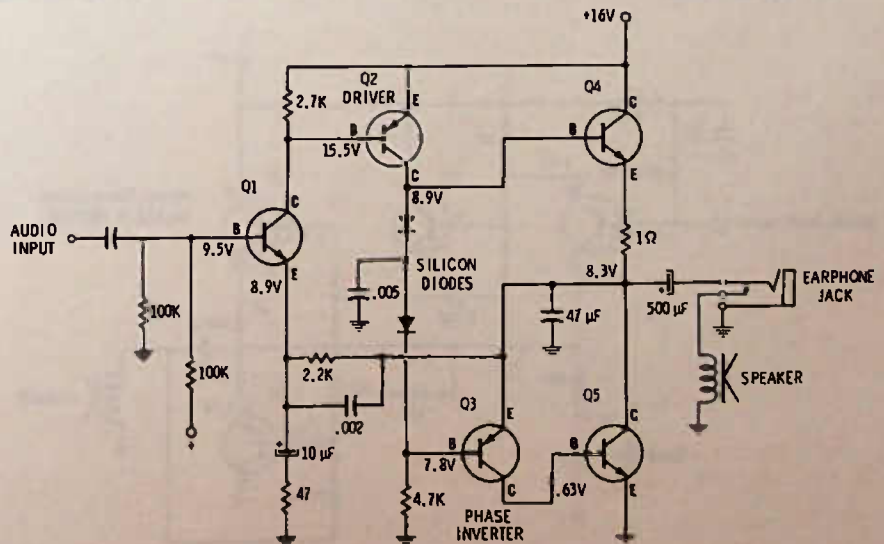

Fig. 12-20. Circuit for Questions 45, 46, and 47.
45. Fig. 12-20 is a TL circuit that uses the same type of transistor for both the outputs (just as in the OTL circuit), but instead of a transformer, a transistor is used as a phase inverter to "turn the signal over" on Q5 as compared to Q4. This occurs because in any transistor with the input going into its base and the output taken from the collector, the signal is reversed 180 degrees—that is, if the
46. In Fig. 12-20, if the signal input at the base of Q1 is negative-going at some instant, at that same instant the voltage at the base of Q5 will be
47. Judging from the bias on the various transistors in Fig. 12-20, the indication is that